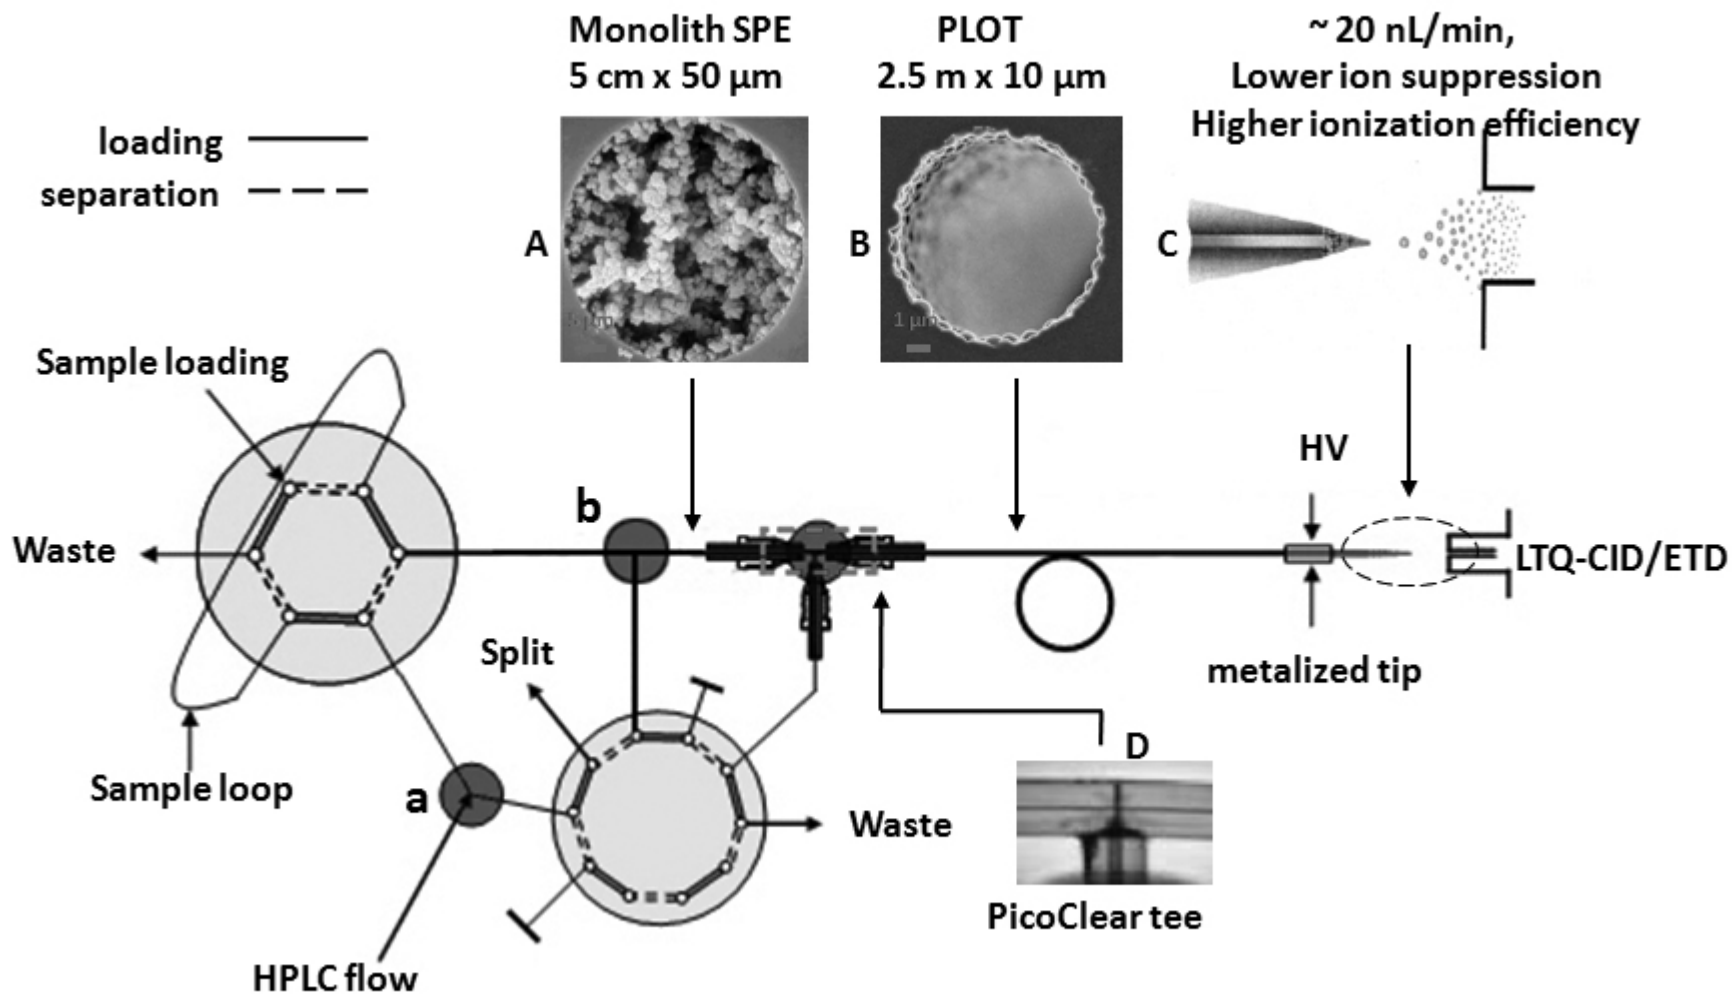

Figure S1
Figure S1. PLOT LC-LTQ-CID/ETD-MS system. (A) Scanning electron micrograph (SEM) of a monolith SPE column; (B) SEM of PLOT column; (C) Schematic representation of electrospray using the 10 μm i.d. PLOT column. (D) PicoClear tee allowed quick sample loading while minimizing band broadening. The 10-port valve was first set in the loading position, with tee **a** serving as splitter and tee **b** as connector. Sample was loaded onto the SPE column while salts and other ESI deleterious components were directed to waste. After loading, both the sample injection valve and 10-port valve were switched to the separation position (dashed line, Figure S1), and the SPE column was now positioned to be in-line with the PLOT separation column. The tees were reversed with tee **a** now serving as connector, while tee **b** acted as splitter.